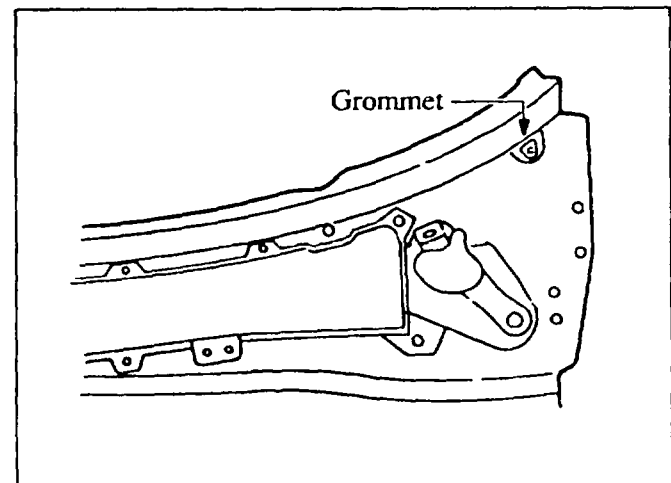

Figure 14: Left Side Grommet
2. Check the cowl grommet for leaks by spraying water on it. Replace the grommet if it leaks. Apply sealer to the bottom side of the grommet during installation. **Figure 14.**